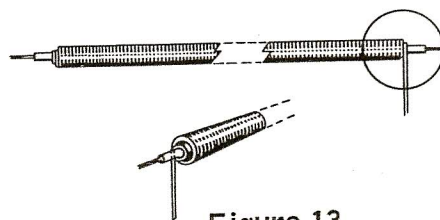

Figure 13
- ( ) Connect the free end of the 33  $\mu$ mf condenser from T8 to socket B8 (S). (Use sleeving.)
- ( ) Install a 158.2 K $\Omega$  precision resistor from terminal strip K1 (NS) to switch S7 (NS). Note that S7 is a double contact. Place the lead at this end through both contacts.
- ( ) Connect a 10  $\mu$ mf condenser (brown-black-black or marked) from K1 (S) to S7 (S). Solder both S7 contacts securely.
- ( ) Connect one of the wires appearing through grommet DD to socket D3 (S) and the adjacent wire to D4 (S). Dress the wires tight to the chassis and back apron.
- ( ) Run the red wire appearing through grommet AD, through grommet DD and connect it to condenser Y- (S).
- ( ) Connect a wire from socket E1 (S) through grommet DD to terminal strip L3 (S).
- ( ) Place the end of the twisted pair which has the wires even, through grommet DA from terminal strip L side and connect one of the leads to control switch U4 (S). Connect the adjacent wire to U5 (S).
- ( ) At the opposite end, place the leads through grommet DD and connect the longer lead to socket E5 (S). Connect the adjacent end to terminal strip X3 (NS). Dress the wires tight to the chassis and shield bracket.
- ( ) Cut a piece of spiral shielding to a length of 2-3/4". At one end, unroll about 1" length of wire as shown in Figure 13. Connect this wire to terminal strip M3 (NS). Place the opposite end through grommet DB, leaving the end flush with the opposite edge of the grommet. Dress the shield away from terminal L to avoid possible short circuits.